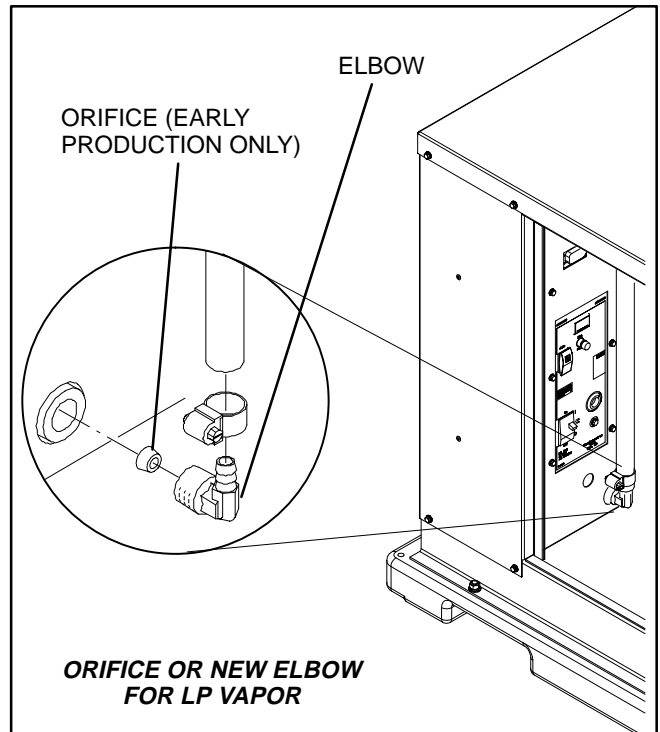
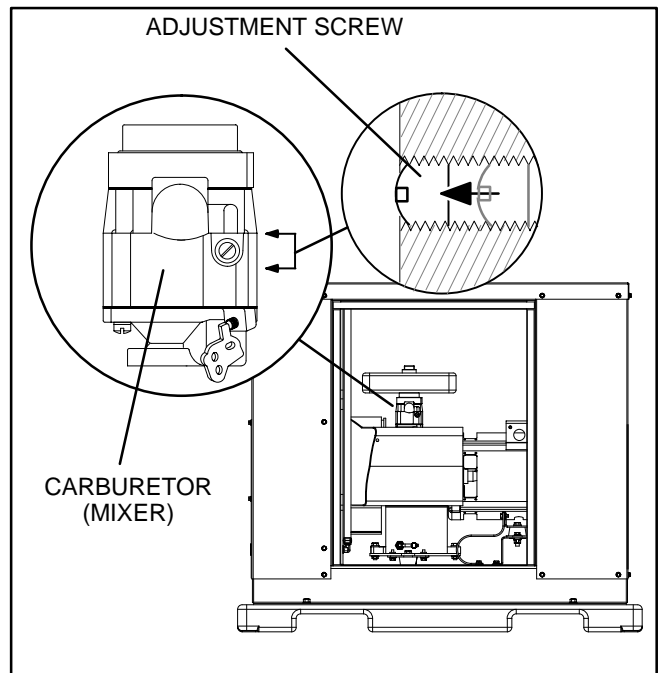

FIGURE 3-3. NATURAL GAS TO LP VAPOR CONVERSION
FIGURE 3-4. CARBURETOR ADJUSTMENT
The genset leaves the factory set up for natural gas. The genset must be converted to use LP Vapor. Conversion on early production units involves inserting an orifice into the brass elbow (See Figure 3-3). Later production units use a replacement elbow with a smaller ID, and is marked with a red dot on the elbow. All conversions require adjusting the carburetor (See Figure 3-4). The genset is shipped with a kit containing the orifice for conversion.
2. Remove the elbow following the regulator in the fuel line (Figure 3-3).
4. Turn the carburetor (mixer) idle screw from all the way in (original factory setting) out so that the top of screw is flush with the body of the carburetor. See Figure 3-4.